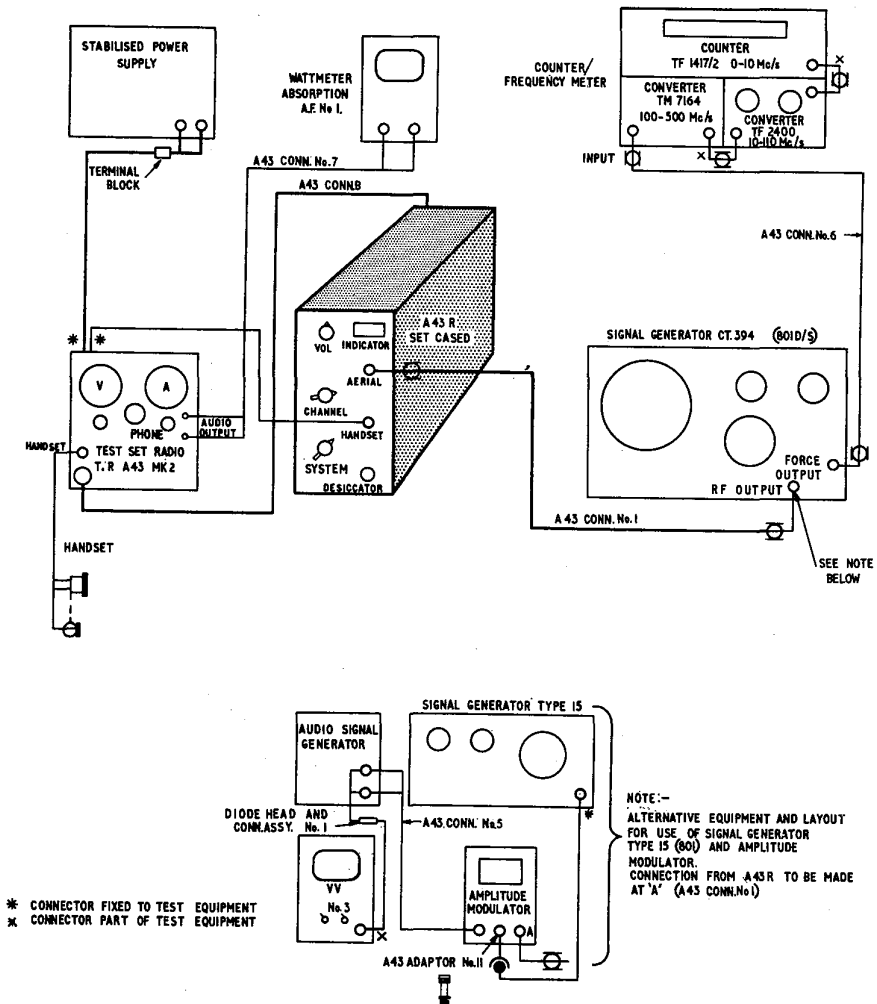

Fig 2 - Receiver performance specification, test layout (set cased)
- (1) Connect the test equipment as shown in Fig 2 and put the A43R SYSTEM switch to PHONE.
- (2) Adjust the stabilized power supply to 12V.
- (3) Put the test set switches as follows: